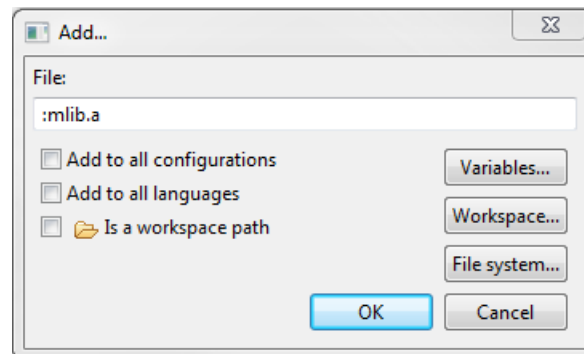

Figure 1-19. Library file inclusion
11. Type the following into the File text box (see Figure 1-19): :mlib.a